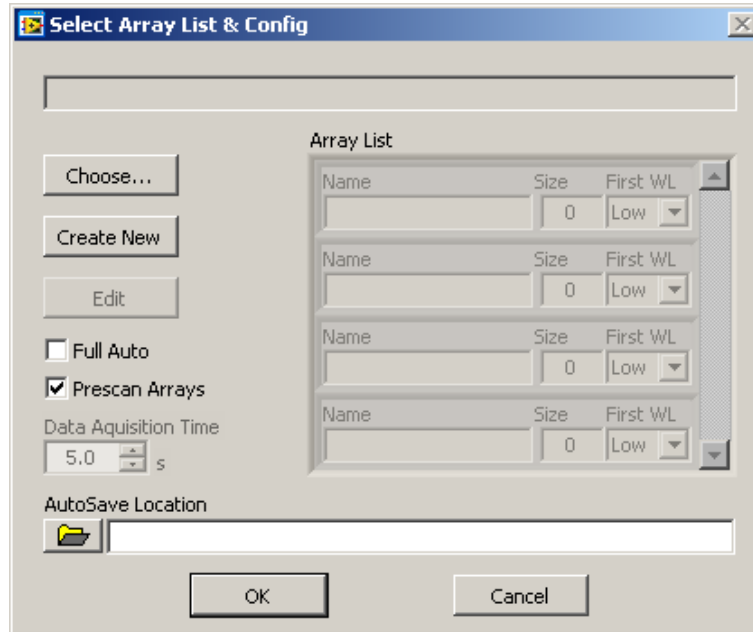

Figure 2.14.1: Array list Selector/Auto mode configuration
- i. Uncheck 'Full Auto' box if you are using the interrogation system in semi-automatic mode (Figure 2.14.1)
- vi. Click Finished to return to array list selector (Figure 2.14.1)